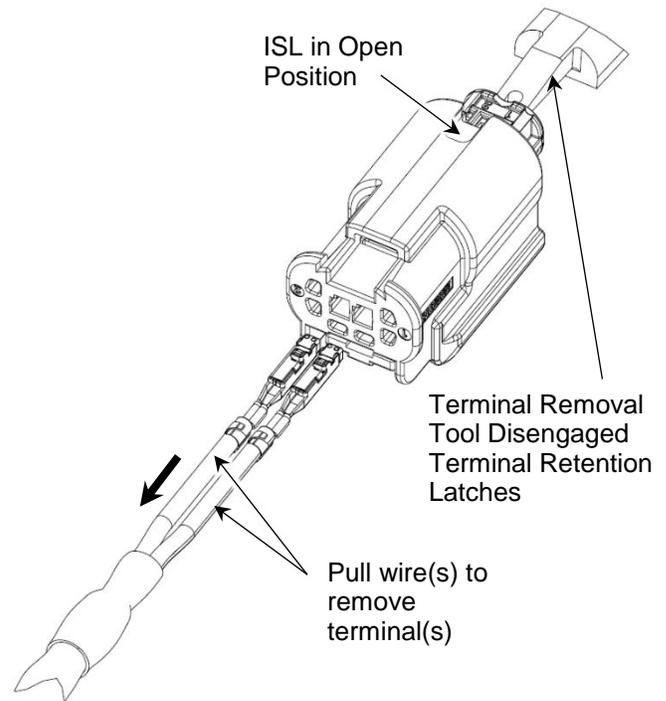

Figure 7
3. With the ISL in the open position and the terminal latches disengaged, use the wire(s) to pull the terminal(s) from the connector. See Figure 7